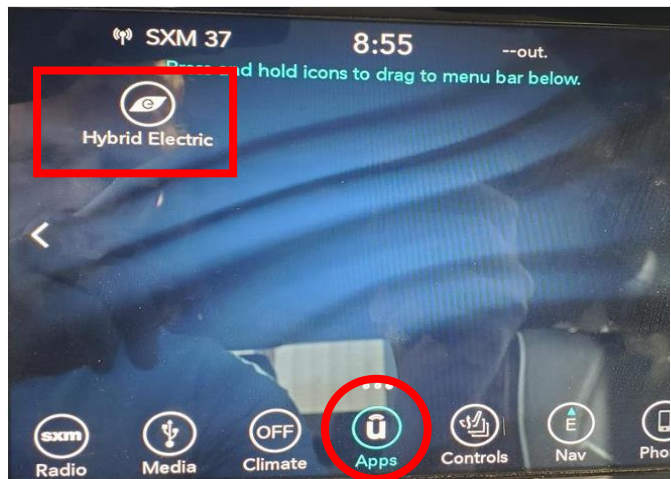

Figure 1 – Apps Display Screen
22. Select “Apps” then “Hybrid Electric” on the display (Figure 1).